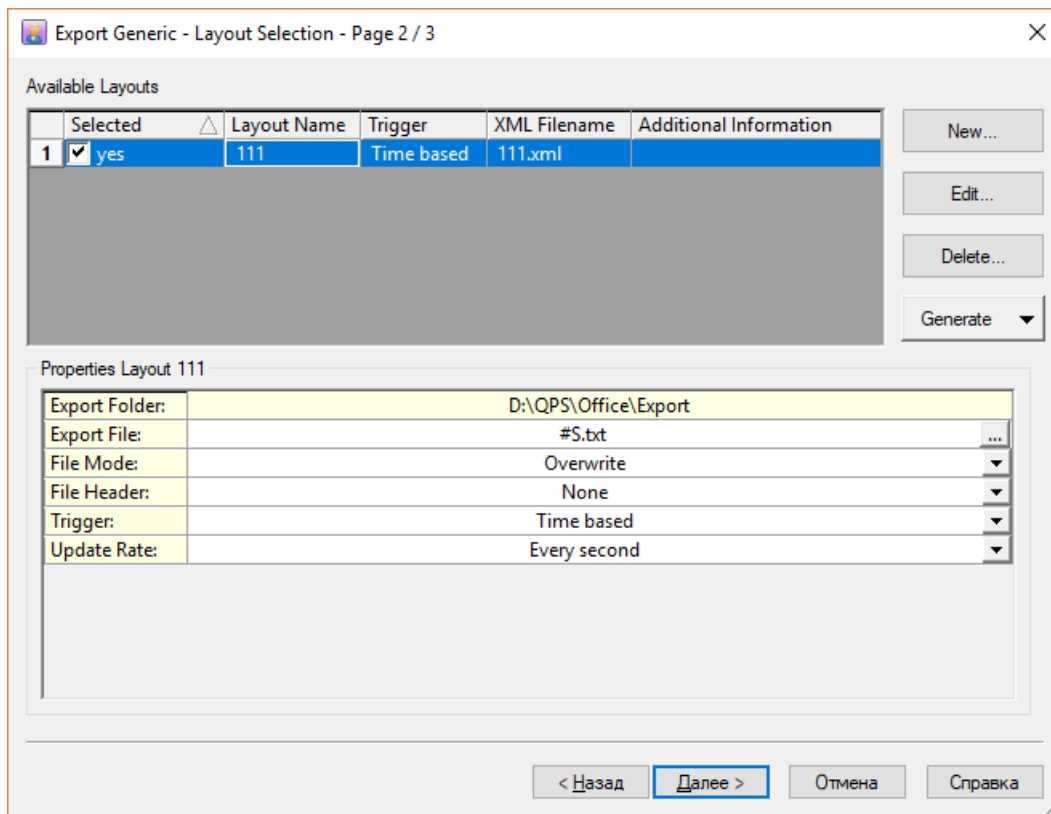

Figure 1.15. Window verification of export data.
11) After saving the Layout, the program returns us to the Layout selection window. Put a tick in front of our Layout and click Next → Finish (see Figure 1.15).